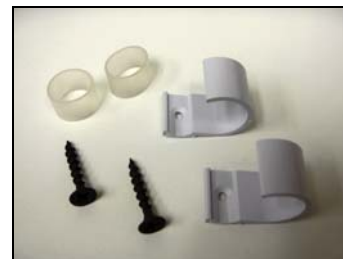

Figure 3 Battery attachment hardware
- Mark the locations to attach the battery wand brackets (Figure 3) placing the open end of the U facing up or out. Attach the brackets using the screws provided. If you are attaching to a metal surface, you will need to purchase self-tapping screws.